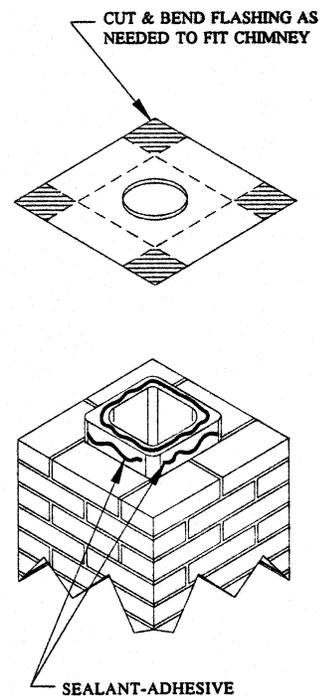

FIG. 23
- Step 3.** Secure the flashing (SDV #705C) to the top of the masonry chimney using a bead of non-hardening sealant-adhesive. If the flashing is larger than the top of the chimney, cut and fold flashing as needed to fit chimney (Figure 23).